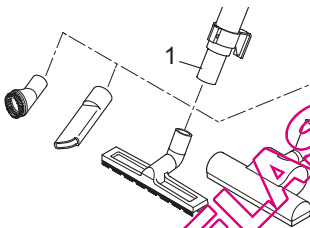

Fig. 8
2. Remove the nozzle from the telescopic tube (Fig. 8/1).
3. Attach the desired nozzle to the bottom end of the telescopic tube (Fig. 8/1) or if necessary directly to the handle (Fig. 1/6).